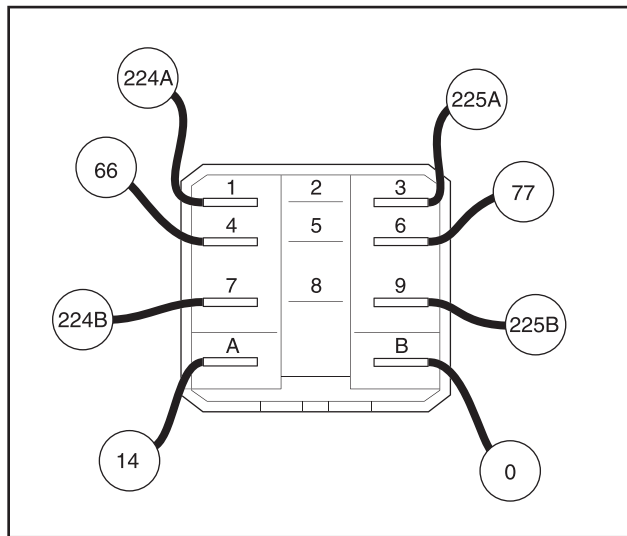

Figure 33. Battery Charge Relay Test Points
5. Verify that the battery charge relay (BCR) is wired correctly (Figure 33).
1. See Figure 33. Disconnect all wires from the battery charge relay, to prevent interaction.